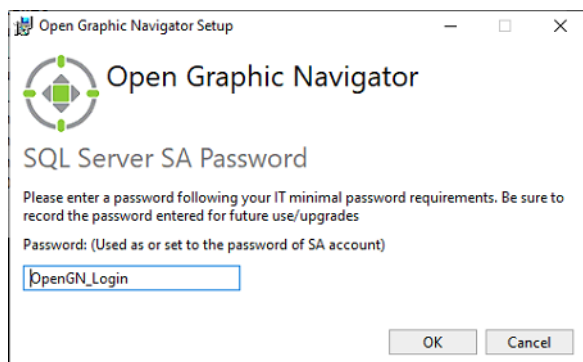

Figure 3 SQL Server SA Password
- Enter the password that OpenGN will use to log into the SQL superadmin account. By default it is **OpenGN_Login**. **This password must be the same as the password you entered earlier** (Figure 3 on page 15).
- b. Enter the password that OpenGN will use to log into the SQL superadmin account. By default it is **OpenGN_Login**. **This password must be the same as the password you entered earlier** (Figure 3 on page 15).